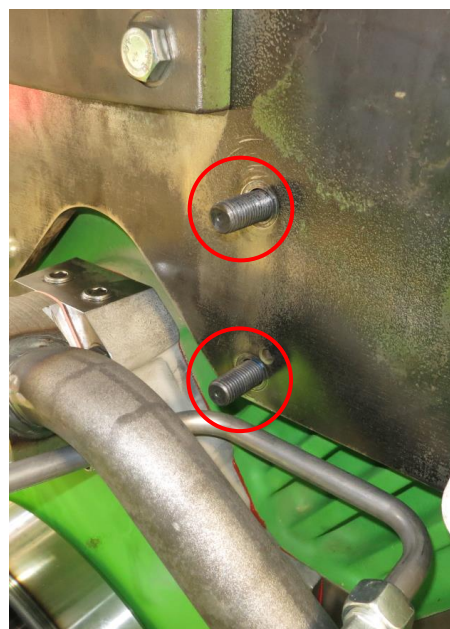

Figure 5: NEW studs
- ✓ See Figure 5 for removing the existing studs
- ✓ See Figure 5 for fitting the new studs (M16 x 50 - part no. 608383)